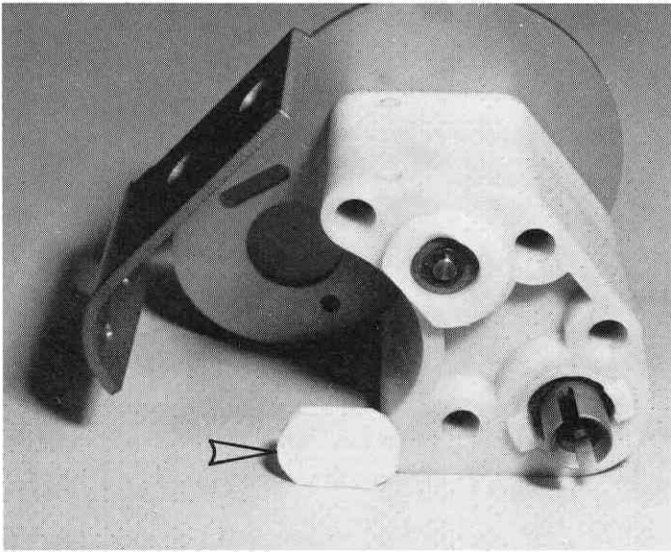

Fig. 97
□ **Fig. 97** Take the sheet of double sided contact tape and cut a piece, as shown.